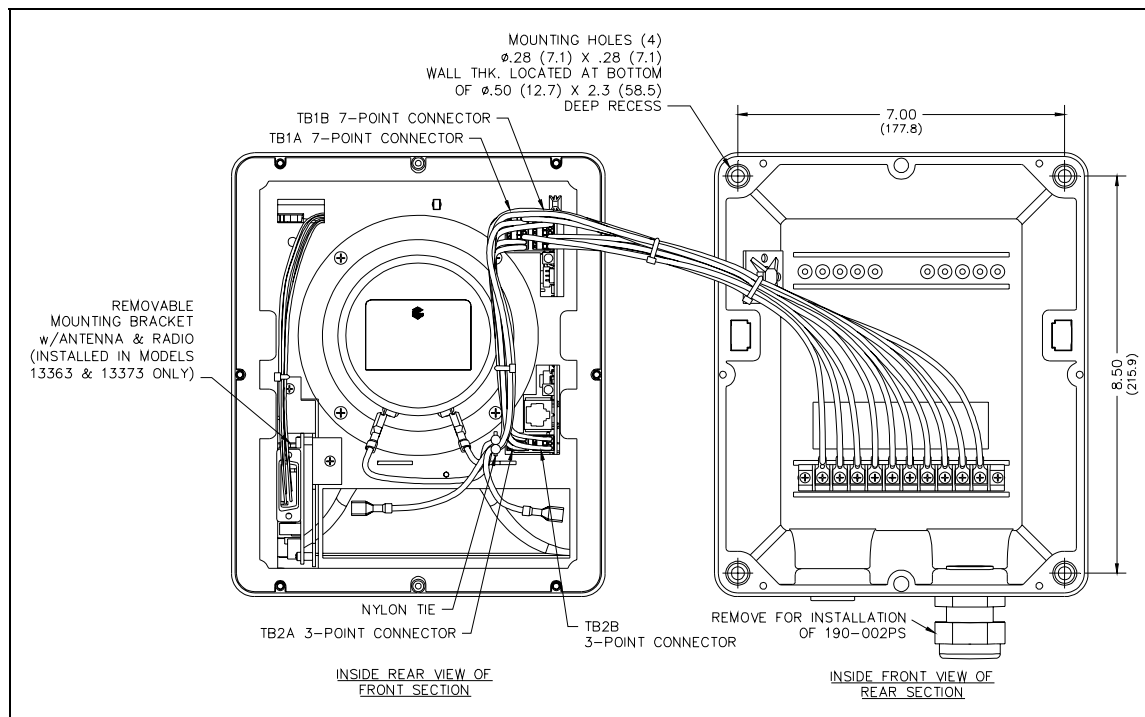
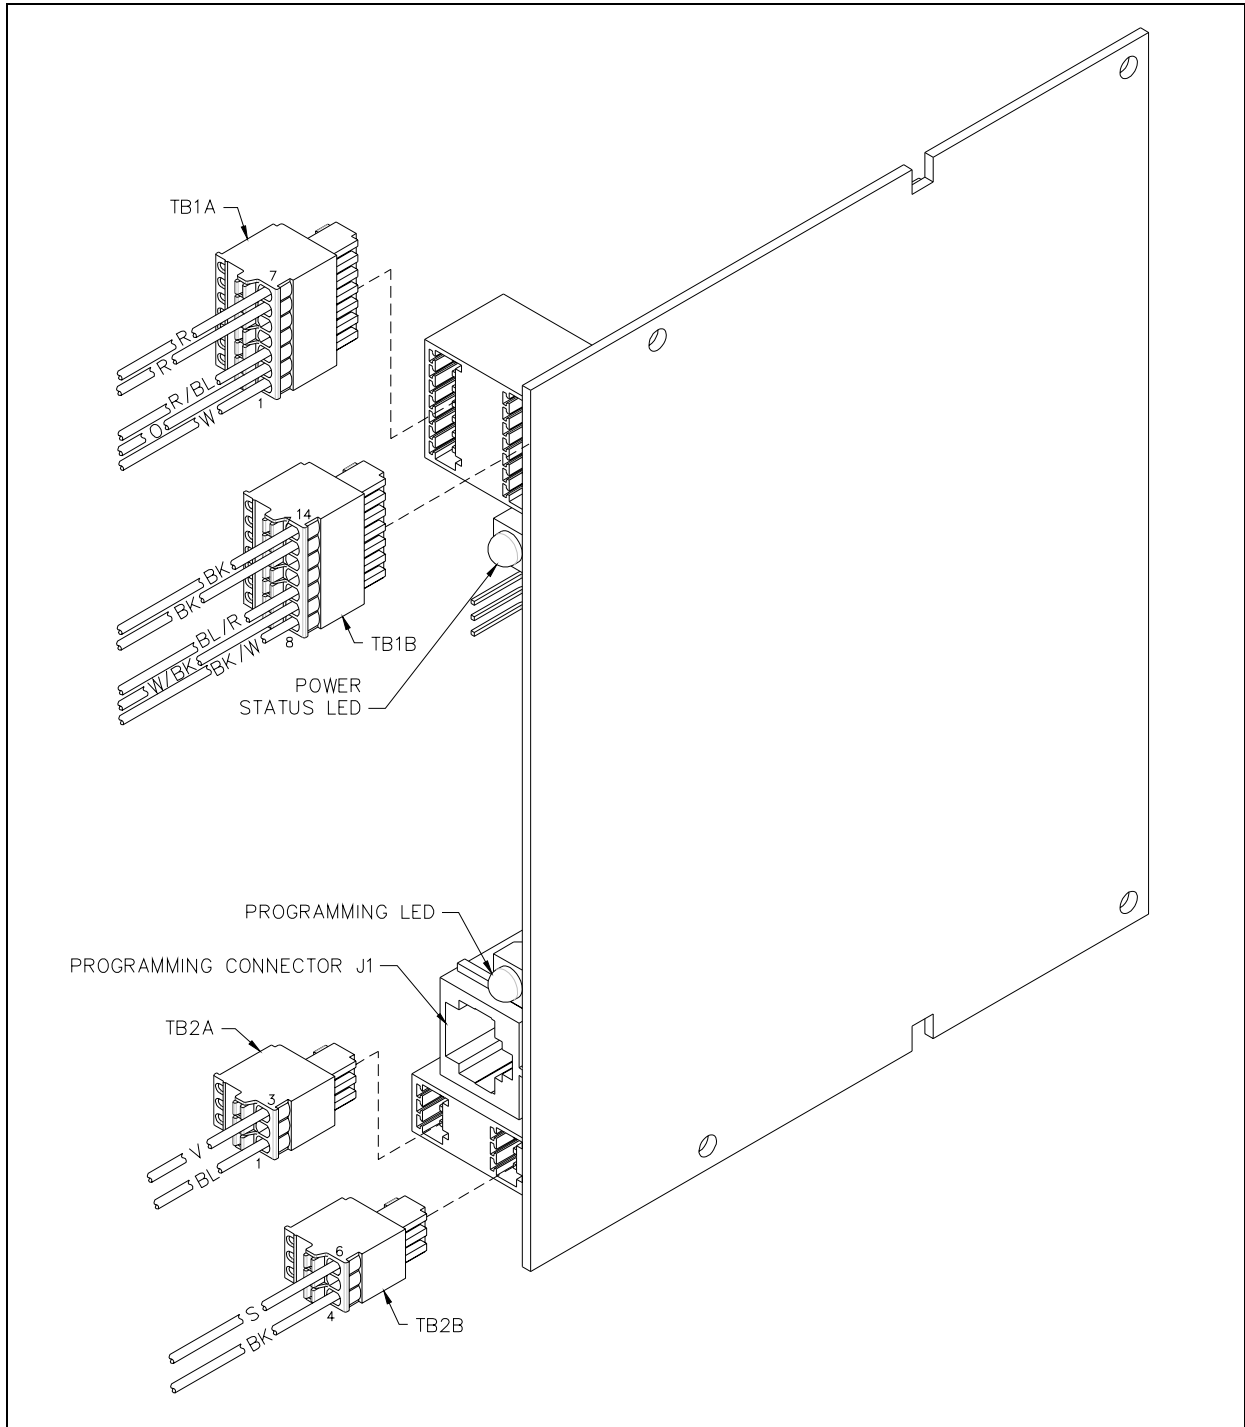

Figure 7. Mounting Detail
Figure 19. TB1 (A & B) and TB2 (A & B) Connector Orientation Diagram
2. After opening the Addressable Amplified Speaker, untwist the nylon tie used for wire management. Unplug the quick-connect fastons from the speaker and unplug the dual 7-point connectors (TB1) and dual 3-point connectors (TB2) from the PCBA. The front section can now be completely separated from the rear section. See Figure 7.
3. Mount the rear section to any flat surface using 1/4-inch diameter customer-provided screws in each of the four 0.280-inch mounting holes in the corners of the rear section. Refer to Figure 7 for mounting hole pattern dimensions. A Model 231-001 Pole Mounting Kit can also be used for pole or surface mounting. Two customer-provided mounting screws are required to surface mount this kit. The kit includes four mounting screws needed to secure the speaker to the kit's bracket.
After routing all necessary cable wires into the Addressable Amplified Speaker, make required wire terminations at TB101, TB1, and/or TB2 (TB1 and TB2 are located on the rear of the front section, next to the speaker. Refer to Figure 7 and Figure 19. When connecting to TB101 it is recommended that spade or ring lug connectors are used.
Refer to Figure 7 or Figure 19 to locate TB1, the dual, 7-point connector. The “A” portion of the connector (to the left while facing the speaker’s front section from the rear) includes the speaker wire connections. This connector numbering begins with position 1 at the bottom and ends with position 7 at the top.
When wire terminations have been completed, reconnect the dual, 7-point and dual 3-point connectors to the PCBA and route the wires through both nylon ties. Refer to Figure 19 for connector orientation. Retwist the nylon ties to secure the wires. Refer to Figure 7 for wire routing. Assemble the speaker sections and tighten front panel screws to 16 to 20 in-lbs. of torque.
The pin-out for the dual, 7-point wiring connector (14 points total) on the front section of the speaker assembly is described below. The numbering orientation is shown in Figure 19.
The pin-out for the dual, 3-point wiring connector (6 points total) on the front section of the speaker assembly is described below. The numbering orientation is shown in Figure 19.
**Refer to Figure 19 for TB1 and TB2 connections and orientation.**